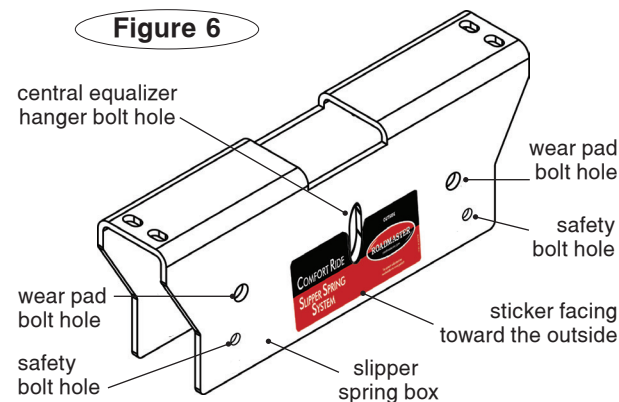

Figure 6
b. With the sticker (Figure 6) facing the outside of the trailer, slide the slipper spring box up and over the equalizer hanger bracket. Align the central slotted hole on the slipper spring box to the hole in the equalizer hanger bracket.
12. Installing the new slipper springs (refer to Figure 6 for the bolt locations in steps 12 and 13):
- b. Insert a 7/16" bolt through the safety bolt hole (refer to Figure 6), a 2½" pipe spacer, and then through the other side of the slipper spring box.